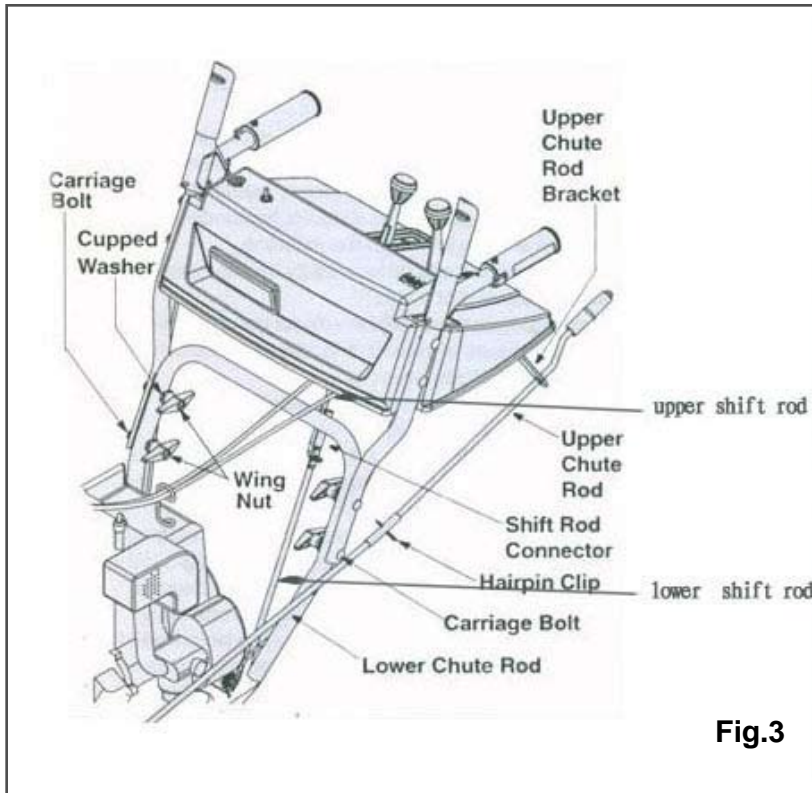

Fig.3
2. Remove the hairpin clip and flat washer from the upper shift rod. Slide the shift rod connector down over the end of the lower shift rod. Tap the connector until it locks on the lower shift rod. Insert the flat washer removed earlier and secure with the hairpin clip removed earlier. See Fig. 3
1. Remove the hairpin clip from the upper chute rod. Slide the upper chute rod through the upper chute rod bracket and into the lower chute rod. A pair of pliers may help in this job. See Fig.3.
2. Align the two holes on both chute rods and insert the hairpin clip removed earlier, through these holes. See Figure 3.